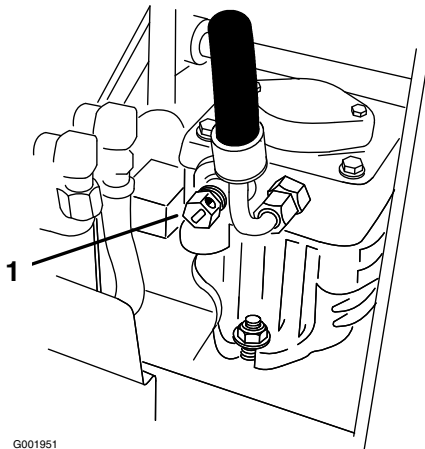

Figure 8
2. Open the by-pass valve on both pumps by turning them counter clockwise 1 to 2 turns. This allows hydraulic fluid to by-pass the pumps and the wheels to turn (Figure 8).